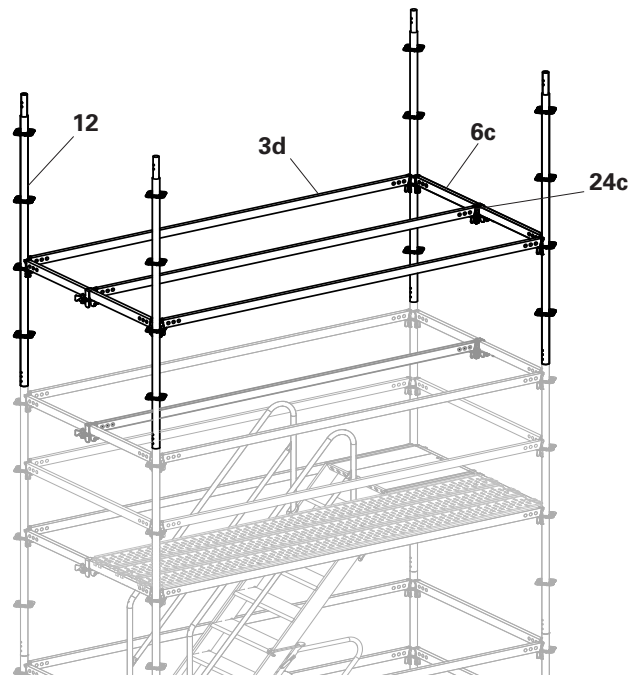

Fig. A10.04
8. Finally, remove Standard UVR-2 200 (12). (Fig. A10.04)